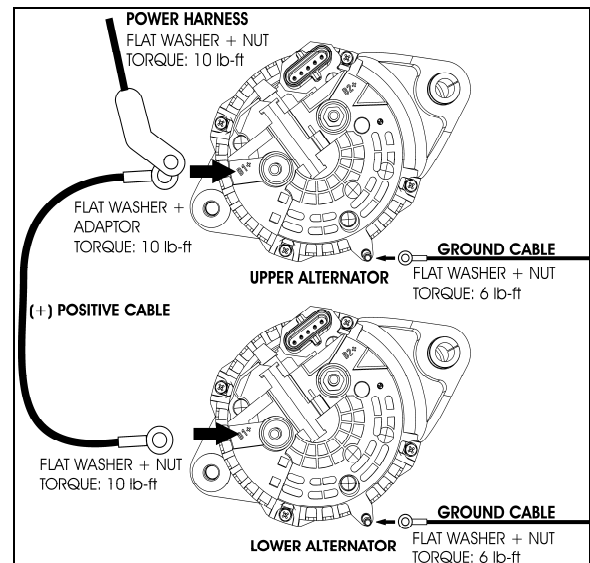

FIGURE 26: TWIN BOSCH HD10 CONNECTIONS
7. Connect ground harness and (+) positive cable on the lower alternator as shown (figure 26).